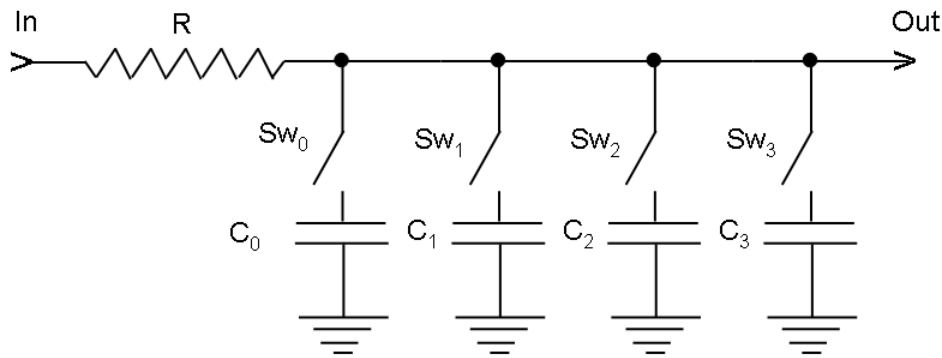

Figure A.3 – EQ Design Above 1 kHz
The EQ for frequencies >1 kHz is accomplished with a series resistor (R) followed by a precision capacitor (C) which shunts the signal to ground such that the value of $R \times C =$ desired time constant, t3. With this configuration, only the values of C must change for the different EQ curves, as shown in **Figure A.3**. The RIAA curve (Sw_0 & C_0) is used as "baseline" for the final "trimming" of R to obtain $t3 = 75 \mu$ sec, after which only the values of capacitance must be selected using relays $Sw_1 - Sw_3$ to obtain the desired EQ curves.¹⁴
The first step was to perform computer simulations on the *Phono III* circuit with the various resistance and capacitance components as shown in the **Figures A.3 and A.4**. These simulations were then compared with the desired design curves to confirm that the proposed designs would perform as desired prior to doing circuit board layouts.